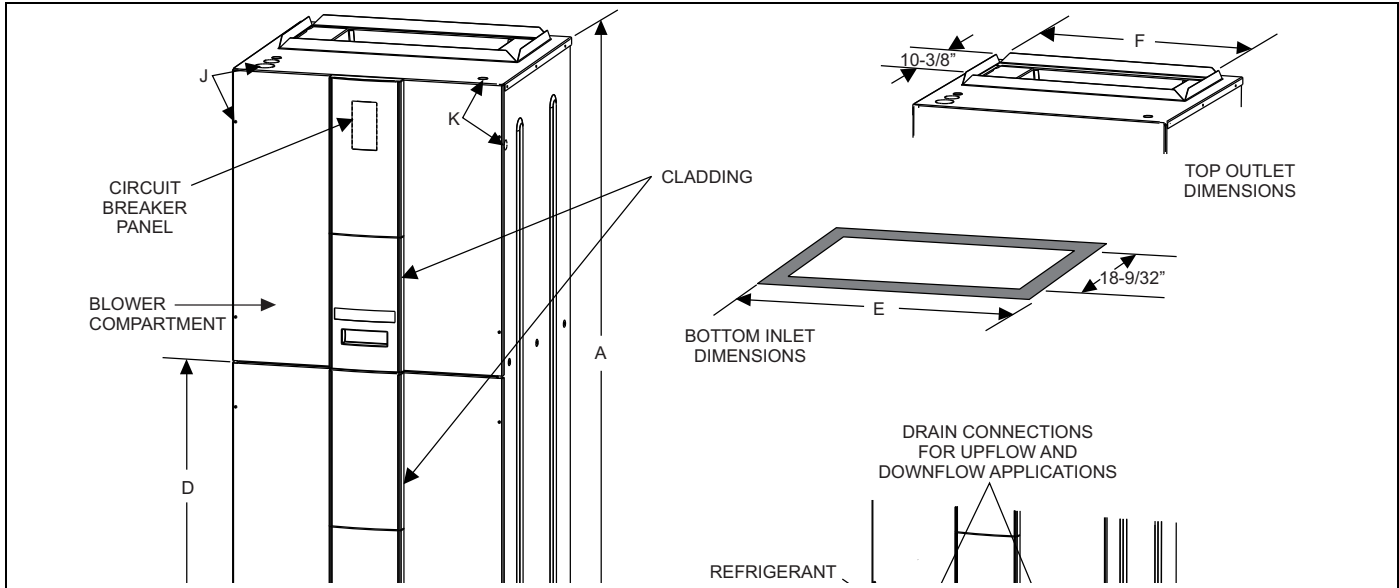

FIGURE 3: Dimensions & Duct Connection Dimensions
2. Refer to the unit rating plate for the air handler model number, and then see the dimensions page of this instruction for supply air plenum dimensions in Figure 3. The plenum must be installed according to the instructions.
Air supply and return may be handled in one of several ways best suited to the installation. See Figure 3 for dimensions for duct inlet and outlet connections.
ers and never fastened directly to the structure. This unit is not designed for non-ducted (freeblow) applications. Size outlet plenum or transition to discharge opening sizes shown in Figure 3.
Air filters must be field supplied. A 1" filter access rack has been built into the unit. See Figure 3. Remove filter access cover shown. Install proper size filter. Standard 1" size permanent or throw away filter may be used, or, permanent washable filters are available using model numbers: 1PF0601, 602, 603BK. See Table 8 for filter size.